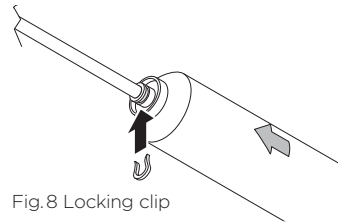
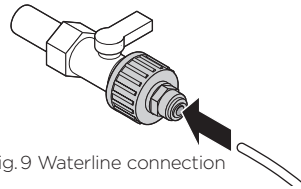
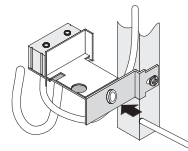

Fig.8 Locking clip
Fig.9 Waterline connection
Fig.10 Valve assembly
- ③ Secure the tube to the filter by sliding a locking clip into the groove as shown (Fig.8).
- ④ Repeat the procedure on the other end of the filter.
- ⑤ Connect the end into the plastic adaptor (Fig.9). Screw the adaptor onto a suitable ½ BSP connector water outlet.
- ⑥ Open the water valve to flush 10 L of water through the filter to remove any trapped air. Check leakage in the water tube connections.
- ⑦ Access the water valve assembly at the back of the refrigerator. Push the tube into the valve assembly (Fig.10).